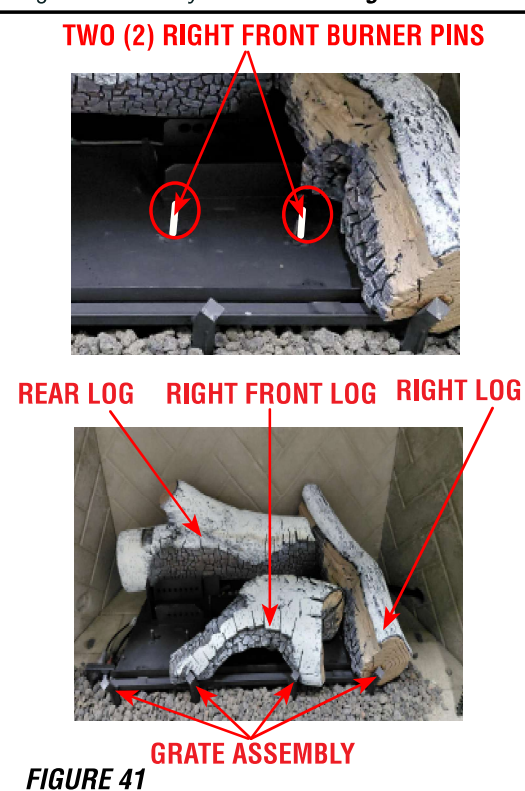

FIGURE 41
3. Place the Right Front Log over the two (2) right front burner pins using the two (2) holes provided in the bottom of the log as shown in **Figure 41**. The log must rest fully against the burner with no space underneath it and the burner. The two front log sections must rest on the grate assembly as shown in **Figure 41**.